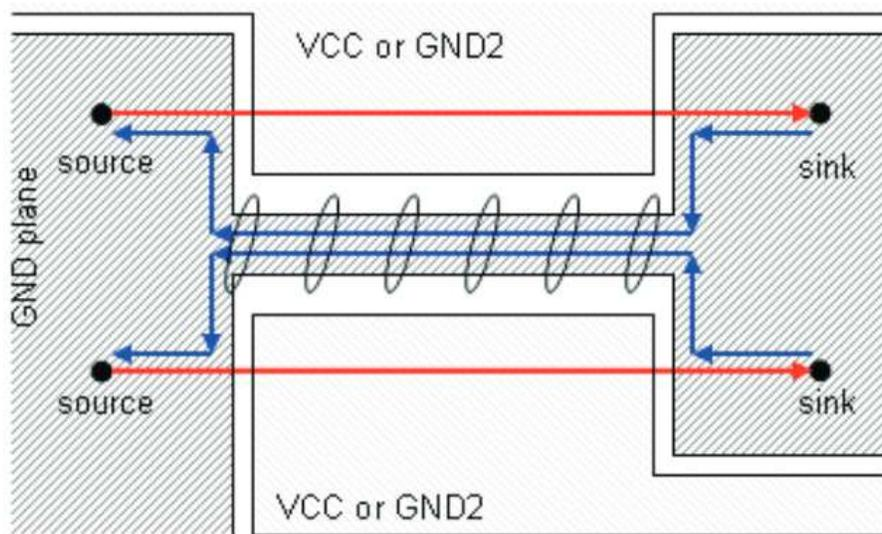

Figure 22. Crosstalk Induced by the Return Current Path
- With a proper signal routing, crosstalk also can arise in the return current path due to discontinuities in the ground plane. Always take care of the return current (Figure 22).
For Figure 22, do not route a signal referenced to digital ground over analog ground and vice versa. The return current cannot take the direct way along the signal trace and so a loop area occurs. Furthermore, the signal induces noise, due to crosstalk (dotted red line) into the analog ground plane.